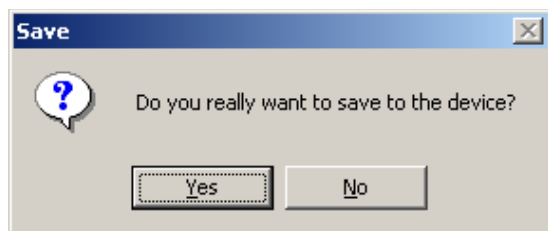

Figure 4-2 Access Code Change Confirmation Screen
3. Select **Save**, IPScOm will display an Access Code change Confirmation Screen (Figure 4-2).
3. Select **Save**, IPScom will display an Access Code change Confirmation Screen (Figure 4-2).